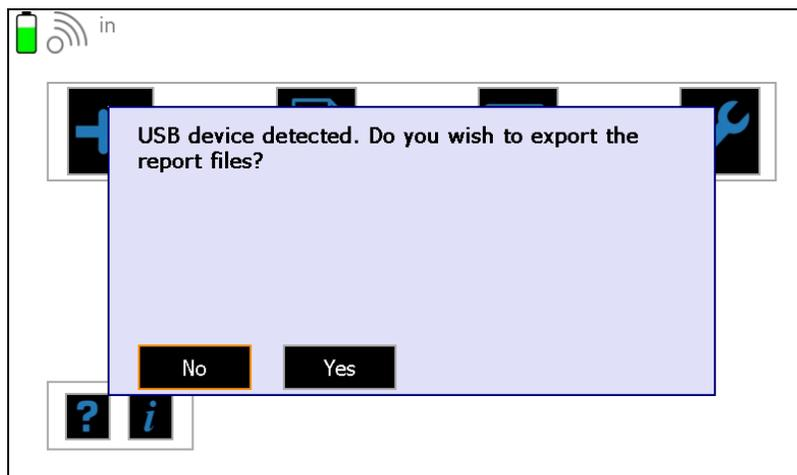

Figure 3. USB device detected
2. When the USB device is detected, a confirmation dialog [Figure 3] will be displayed. Select **Yes** to export any reports from the Display Unit onto the USB stick, if desired.